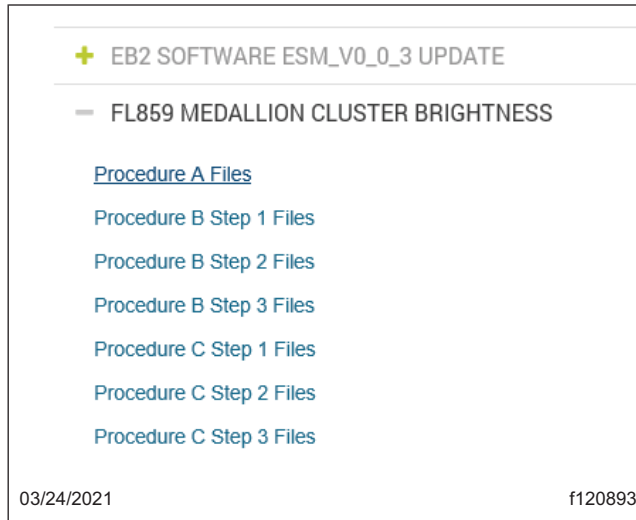

Fig. 3, Links for the Procedure Files
6. Scroll down to the “FL859 Medallion Cluster Brightness” and select the “+” symbol, then select the ‘Procedure A Files’ link. See **Fig. 3**.